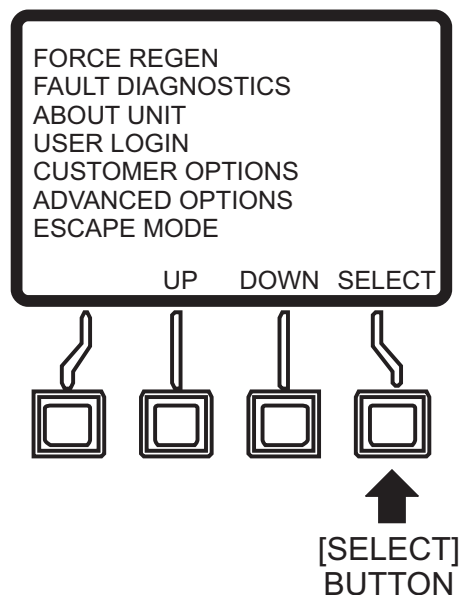

Figure 81. Escape Mode (Select Button)
- Press the **[SELECT]** button (Figure 81) to enter the "Escape Mode" menu.